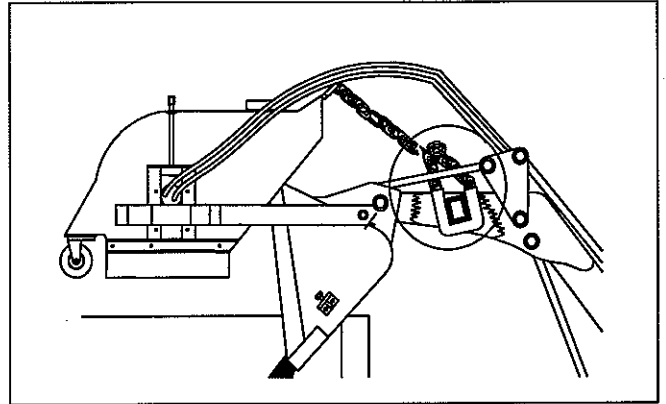

figure 9
2. Raise the unit and then dump the bucket slowly. The unit will dump correctly if chains have the proper tension (figure 9). If the unit tips down when test dumping, go to step 3.